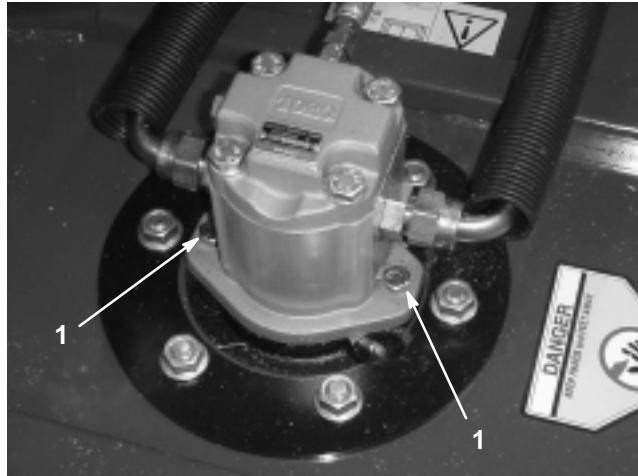

Figure 8
2. Disconnect and remove hydraulic motor from deck (Fig. 8). Cover top of spindle to prevent contamination.
4. Install hydraulic motor to deck (Fig. 8). Make sure o-ring is in position and not damaged.